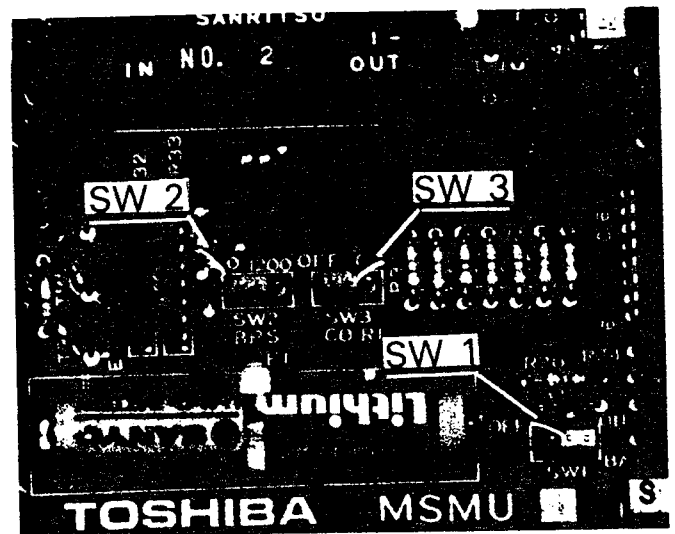

FIGURE 17—MSMU CONNECTION STRAPS
07.22 Locate the SW1 battery strap on the MSMU (Figure 17) and connect the memory back-up battery. The strap is shown in the OFF position. To connect the battery, remove and reinstall the strapping plug so that it bridges the center pin with the pin labeled ON.
07.23 Select the data output speed using the SW2 strap (Figure 17). The speed may be set at 300- or 1200-BPS by installing the strapping plug so that it bridges the center pin with the terminal labeled "300" or "1200". The SW2 strap is shown in the 300-BPS position.
only outgoing calls. This option is selected using the SW3 strap (Figure 17). Installing the strapping plug so that it bridges the center pin with the terminal labeled OFF will cause both incoming and outgoing calls to be recorded. The SW3 strap is shown in the ON position, which selects outgoing calls only.